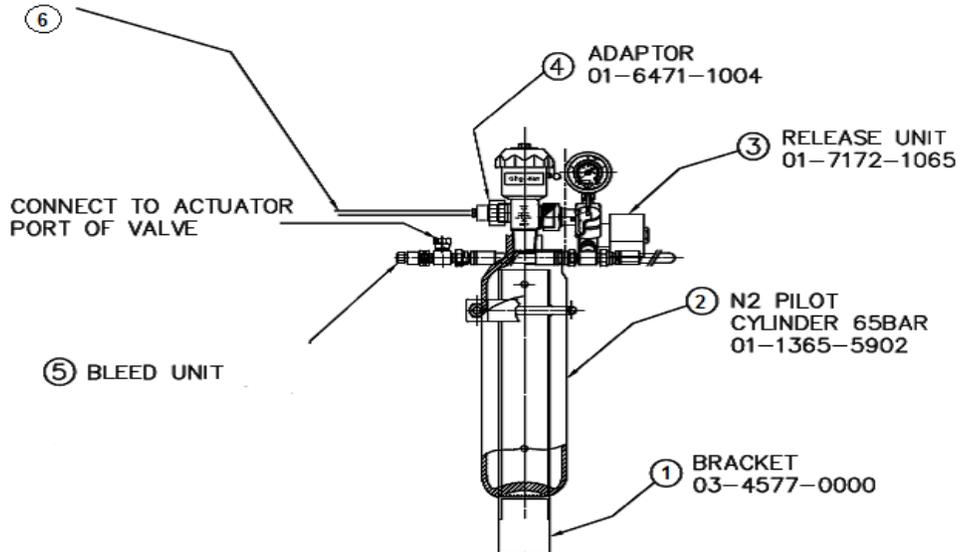

Figure 2.
Instructions to be read in conjunction with figures 2 below;
- Item 1. Install wall bracket ensuring pilot loop/hose will reach the outlet port adaptor (item 4 of figure 2).
- Item 2. Install N2 pilot cylinder with the front of the valve and the name “Ginge Kerr” facing the front, check that pilot hose (item 6 of figure 2) reaches the adapter (4), connect wiring to the solenoid valve DIN plug following wiring diagram (see figure 4), ensure the plug is not energized prior to connecting to the solenoid.